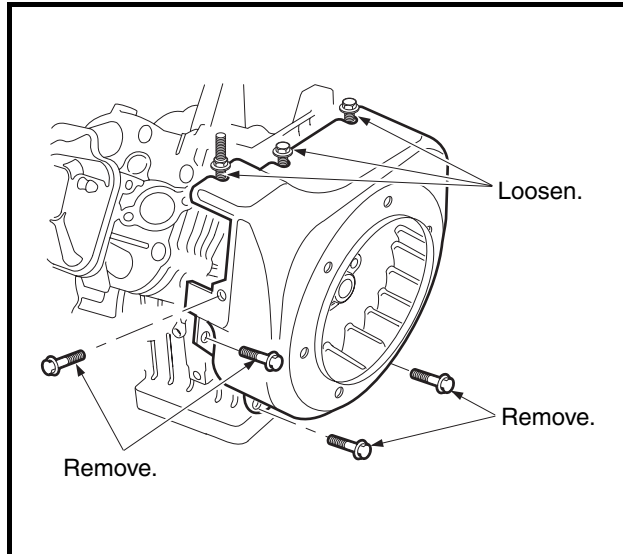

Figure 15-7 Flywheel Housing
1. Loosen three screws and remove the remaining four screws attaching the flywheel housing as shown, then remove the housing (**Figure 15-7, Page 15-7**).